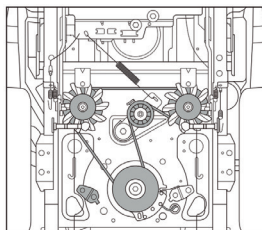

FIG.27A
2. REMOVE THE SET SCREWS (A, FIG.27A) FROM THE ELECTROMAGNETIC CLUTCH (B FIG.27A).
4. REMOVA A RODA TENSORA (D, FIG.27A).
5. REMOVE THE TENSION SPRING (E, FIG.27A).
6. REMOVE THE ELECTROMAGNETIC CLUTCH MOUNTING BRACKET (F, FIG. 27A)